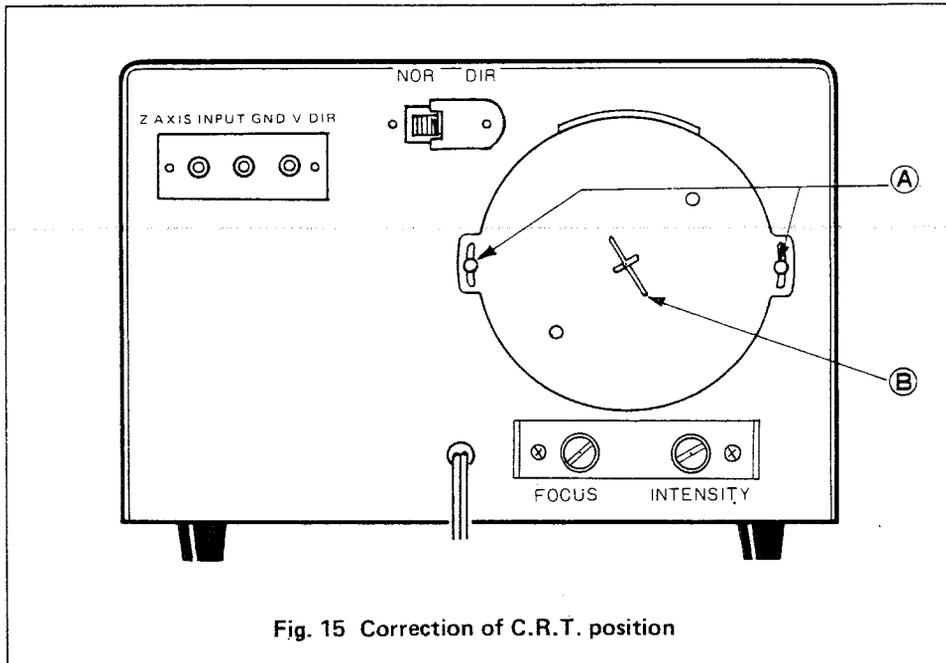

Fig. 15 Correction of C.R.T. position
- (d) Correction of Cathode Ray Tube Position for Tilt (see Fig. 15)
- 3) Remove the two screws holding CRT mounting plate (Fig. 15)